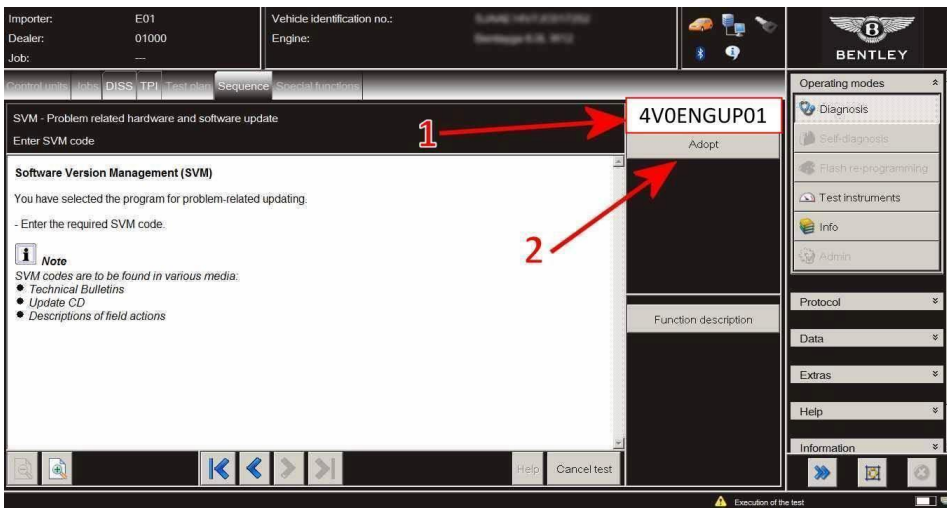

Figure 4
5) Referring to Figure 4- At the SVM screen (1) enter the specific SVM code 4V0ENGUP01 and then select Adopt (2)